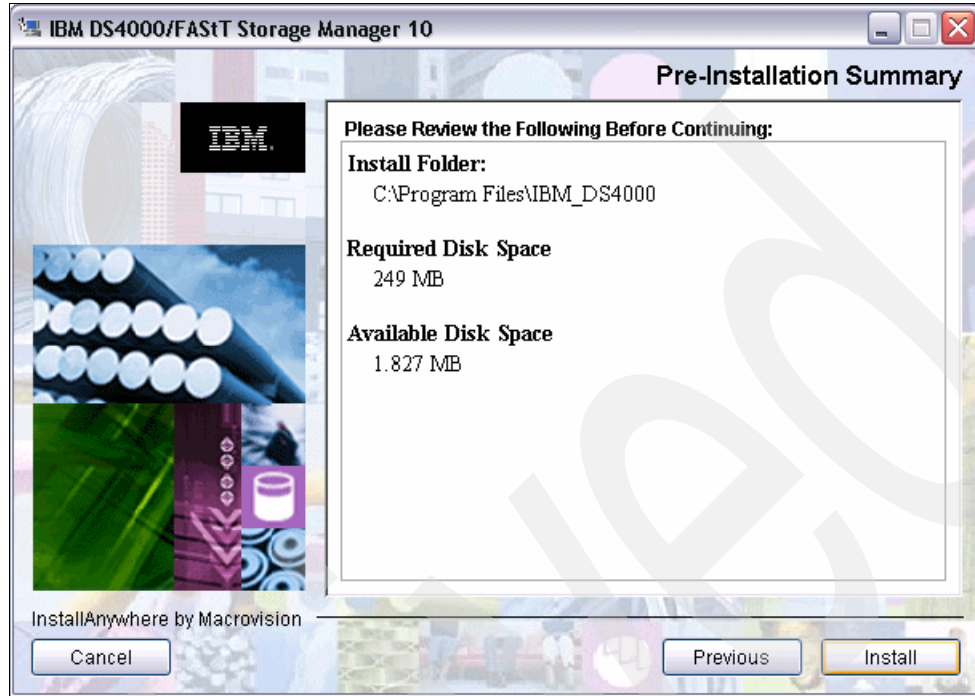

Figure 7-8 SM Pre-Installation Summary dialog
9. Review the information in the Pre-Installation Summary dialog and click **Install** to start the DS Storage Manager client installation, as shown in Figure 7-8.